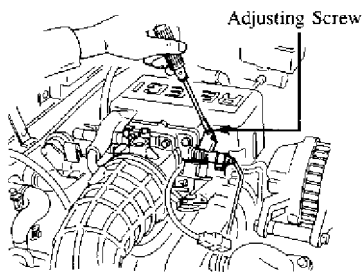

Fig. 3: Adjusting Throttle Sensor
- \* If neither lamp illuminates, turn the adjusting screw clockwise until only the red lamp illuminates. Then turn the adjusting screw an additional 1/4 turn clockwise. See Fig. 3.